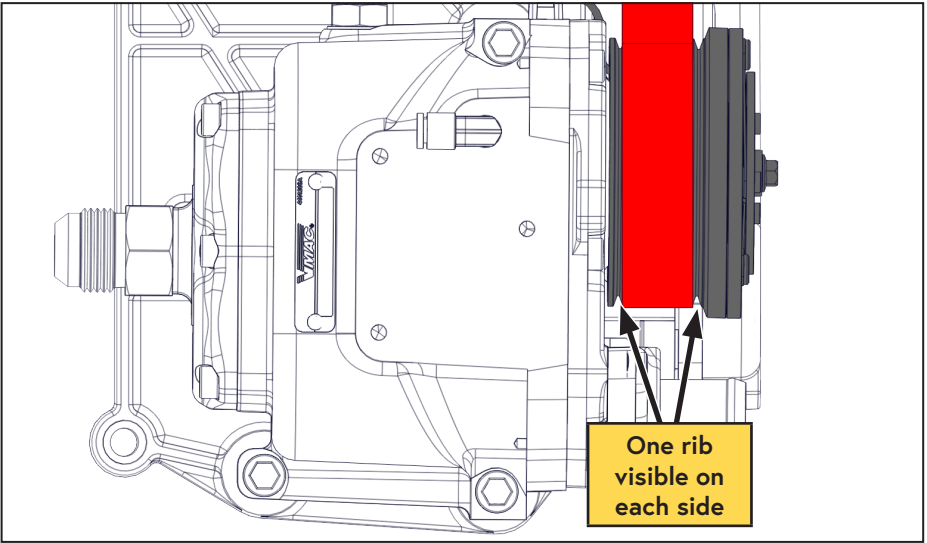

Figure 15 — Align belt on clutch
- Ensure the 6 rib belt is centered on the 8 rib compressor clutch. One clutch rib should be visible on each side of the belt (Figure 15).